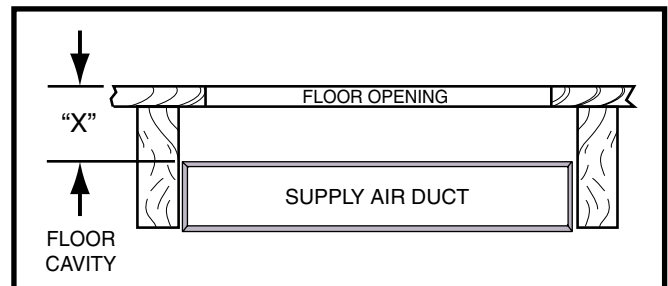

Figure 7. Floor Cavity
- NOTE:** The depth of the floor cavity (shown as "X") in Figure 7 will determine the correct duct connector.